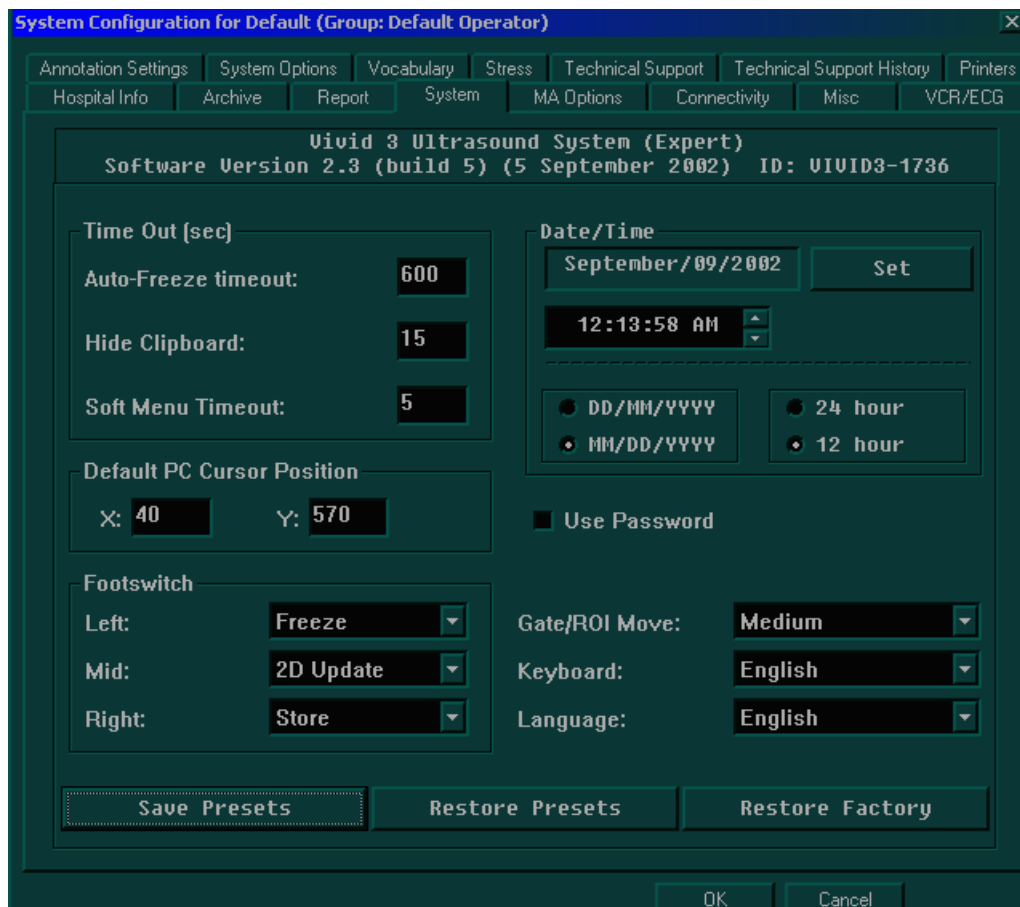

Figure 3-21 System Tab
- In the **Default PC Cursor Position** area, specify the default location of the PC cursor on the screen by entering the X and Y coordinates into the **X** and **Y** fields. The Figure 3-21, above indicates the recommended default factory setup for X and Y.